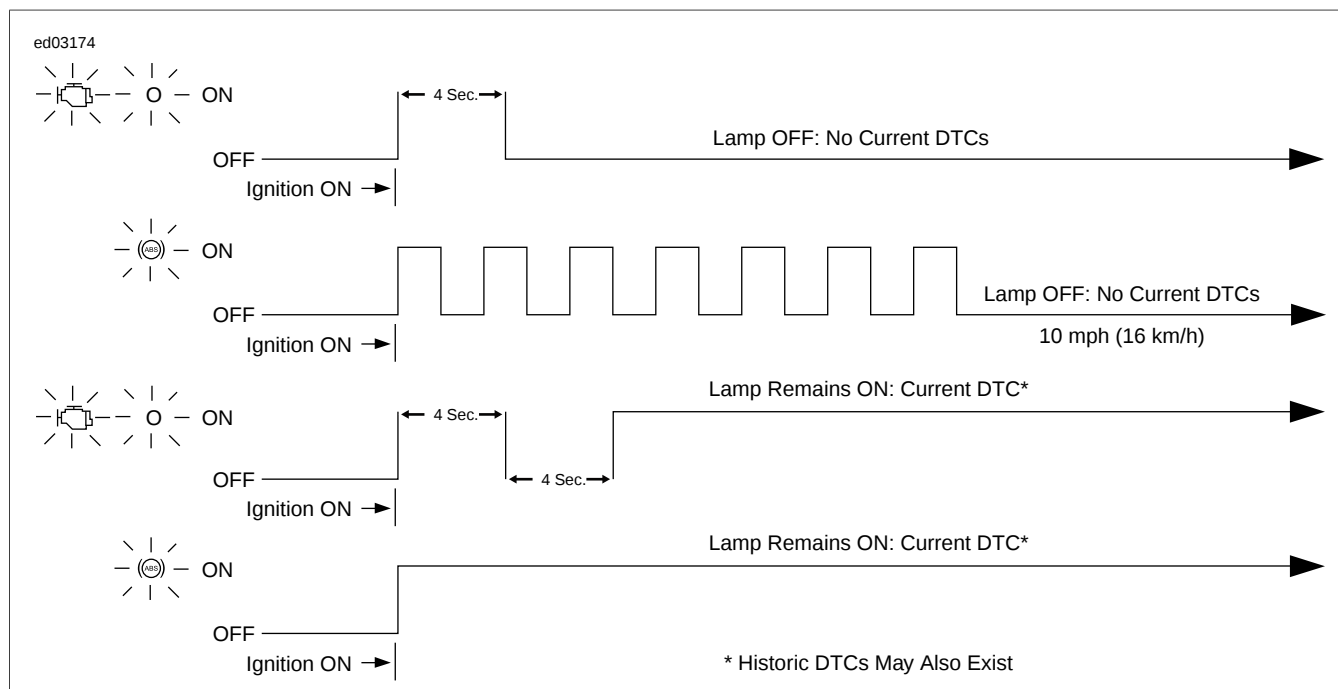

Figure 2-1. Check Engine Lamp and Security Lamp Operation
1. See Figure 2-1. After the check engine lamp turns off following the first four second illumination period, one of two events may occur.